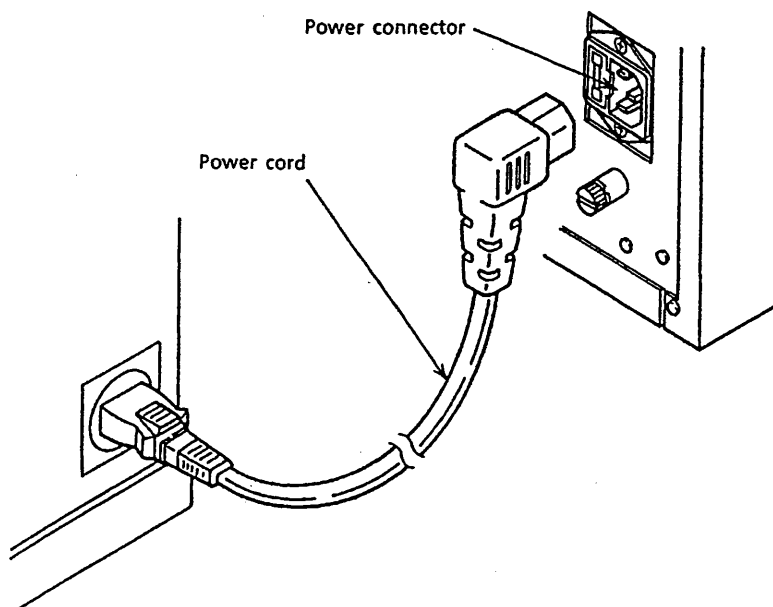

Figure 1.7
- (1) First verify that the recorder power switch is turned OFF, then connect the power cord to the rear panel power connector as shown in Figure 1.7, and connect the power cord plug to a power outlet.